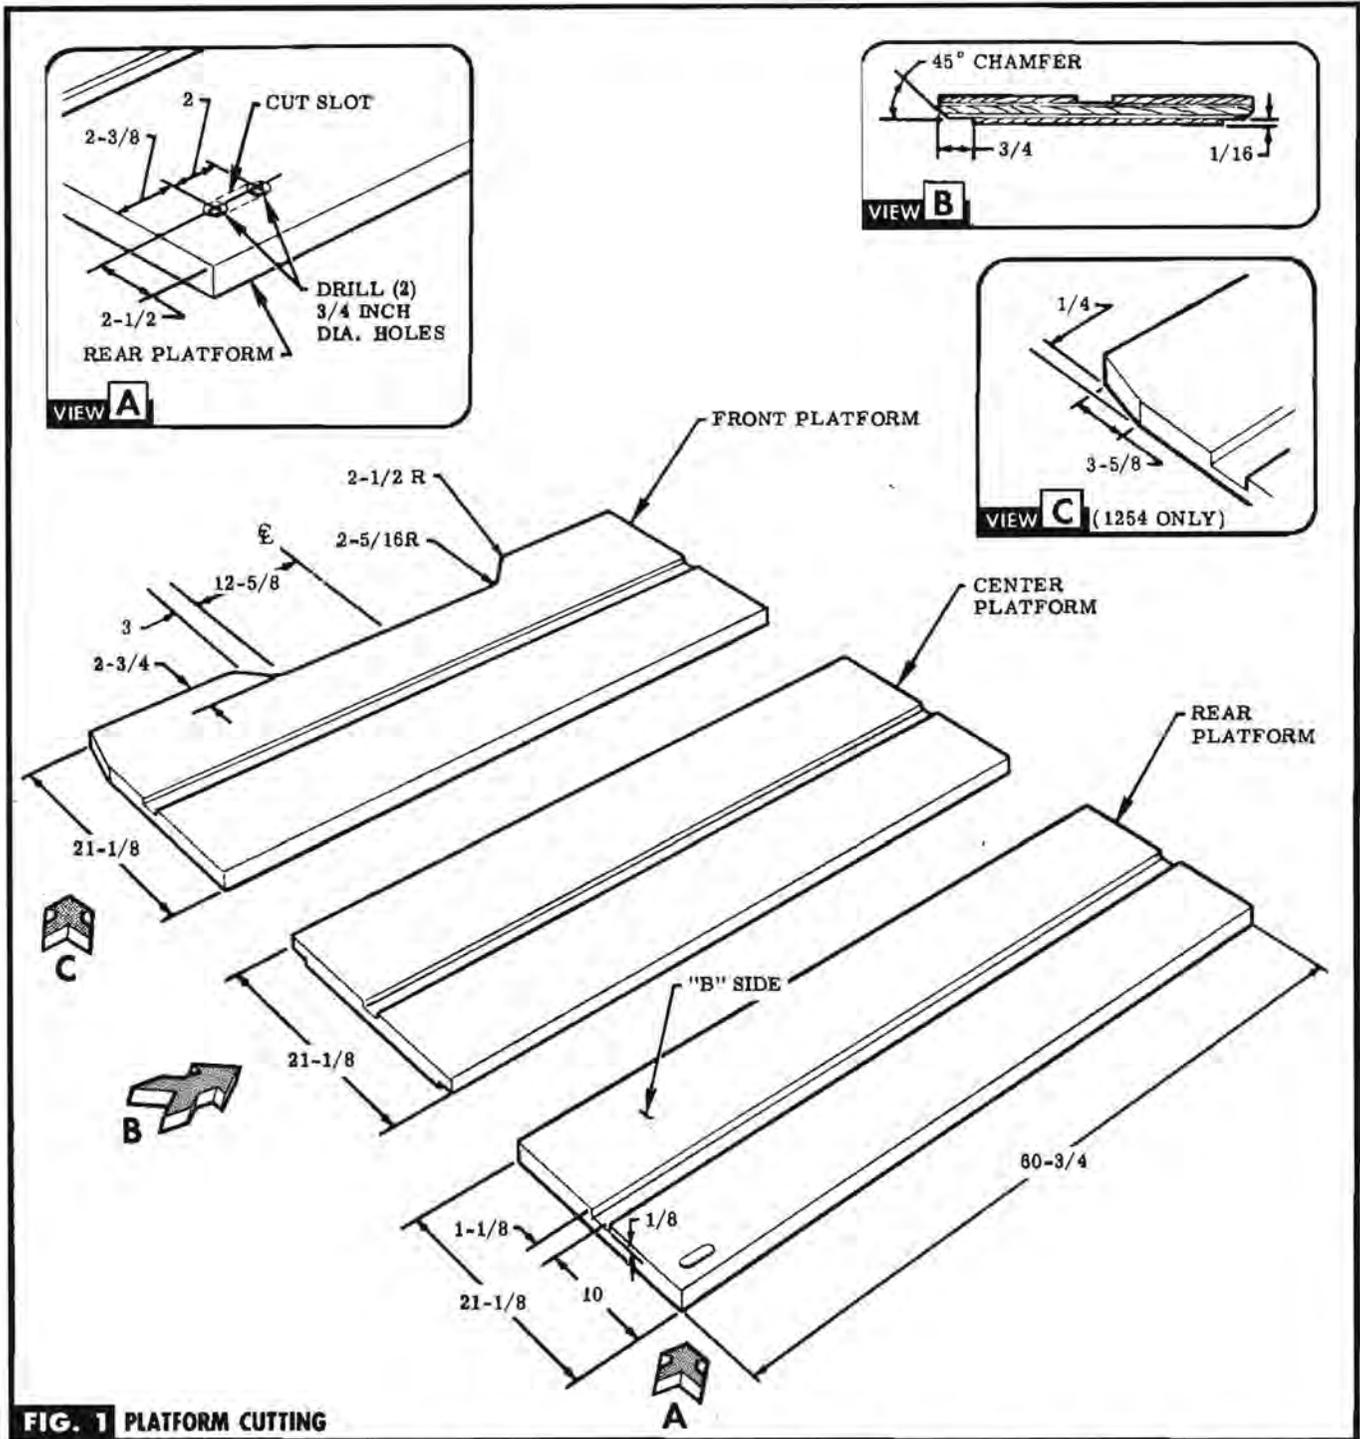

FIG. 1 PLATFORM CUTTING
- STEP 1** PURCHASE LOCALLY ENOUGH 3/4 INCH (5-PLY EXTERIOR GRADE "AB") PLYWOOD TO MAKE (3) EQUAL PARTS.
- STEP 2** CUT (3) EQUAL PARTS OF PLYWOOD TO DIMENSION SHOWN. SEE FIG. 1.
- STEP 3** CUT GROOVE IN ALL (3) PARTS ON "B" SIDE SEE FIG. 1.
- STEP 4** DRILL (2) HOLES & CUT SLOT IN (1) PART DESIGNATED "REAR PLATFORM". SEE VIEW A.
- STEP 5** CUT GROOVES & CHAMFER ALONG EDGES ON OPPOSITE SIDE OF GROOVE ON (1) PART DESIGNATED "CENTER PLATFORM". SEE VIEW B.
- STEP 6** CUT OUT AREA ON REMAINING PART DESIGNATED "FRONT PLATFORM". SEE FIG. 1. & VIEW C.